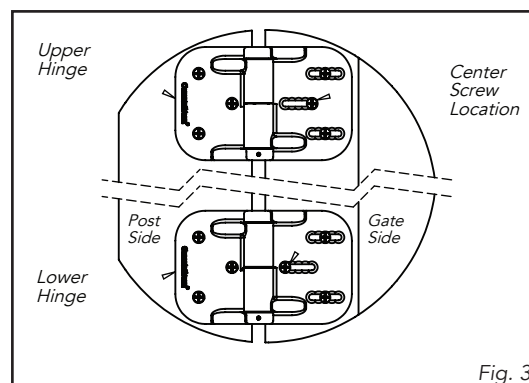

Fig. 3
2. When attaching the hinge to the gate, begin by centering screws in the top and bottom slots only (Fig. 3). Make all final adjustments to the gate and tighten the (4) screws.
3. With the gate secured, install the final (2) screws in the center slots located as shown in figure 3 (top hinge = far right of slot, bottom hinge = far left of slot).
1. To adjust the position of gate, remove the "gate side" center screws of both upper and lower hinges (Fig. 3).
3. When desired adjustment is achieved, re-engage the (4) screws so that they seat within one of the adjustment countersinks. Re-install the center screws as described in the mounting instructions. New pilot holes will be required for the center (2) screws.